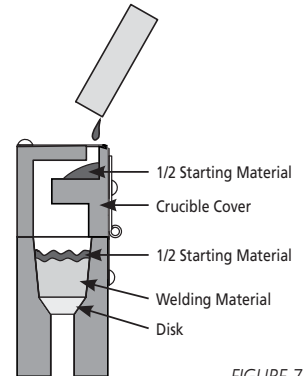

FIGURE 7
**CAUTION:** Install only the specified welding material in the mold crucible. Use only the welding material size that is specified on the mold. ERICO brand of welding material (F80) is formulated specifically for use with rail steels; it is packaged in a blue tube with a yellow cap. Dump all of the welding material into the crucible, then carefully tap the tube on a hard surface to loosen the starting material from the bottom of the tube and distribute half on top of the welding material, close the mold cover, and pour the remainder in the opening of the mold cover. See Figure 7. Failure to comply may result in difficulty getting the reaction started and/or an unacceptable weld.